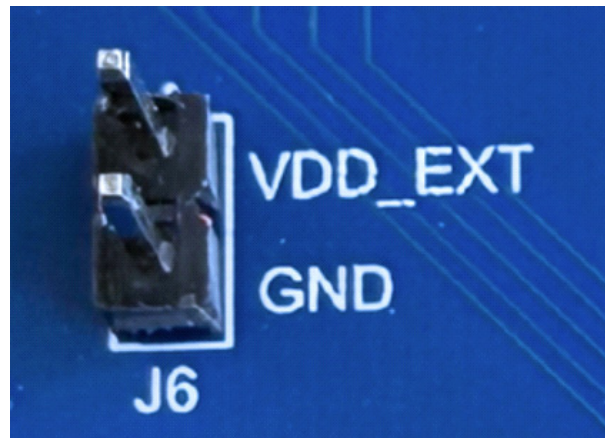

Figure 12. J6 External Supply Header
- Provide externally-supplied power via J6 in Figure 12.